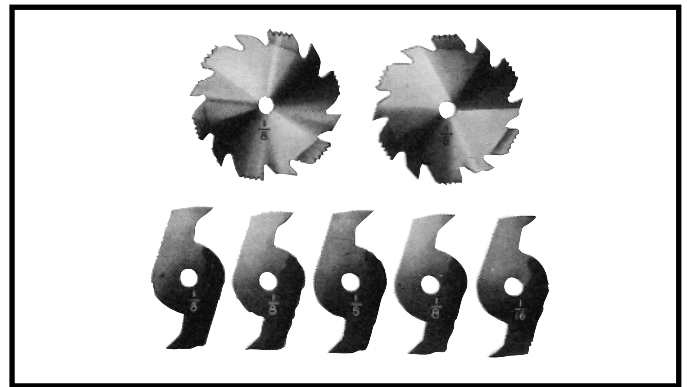
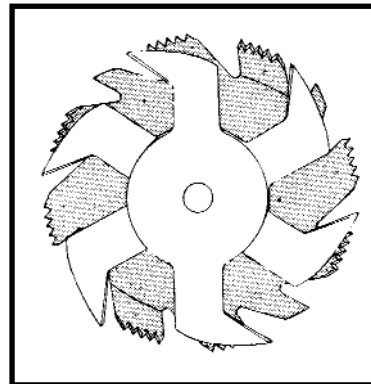
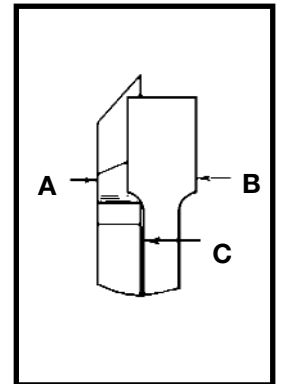

Fig. 53
Fig. 54
Fig. 55
1. Dadoing is cutting a rabbet or wide groove into the work. Most dado head sets are made up of two outside saws and four or five inside cutters, (Fig. 53). Various combinations of saws and cutters are used to cut grooves from 1/8" to 13/16" for use in shelving, making joints, tenoning, grooving, etc. The cutters are heavily swaged and must be arranged so that this heavy portion falls in the gullets of the outside saws, as shown in Fig. 54. The saw and cutter overlap is shown in Fig. 55, (A) being the outside saw, (B) an inside cutter, and (C) a paper washer or washers, used as needed to control the exact width of groove. A 1/4" groove is cut by using the two outside saws. The teeth of the saws should be positioned so that the raker on one saw is beside the cutting teeth on the other saw.